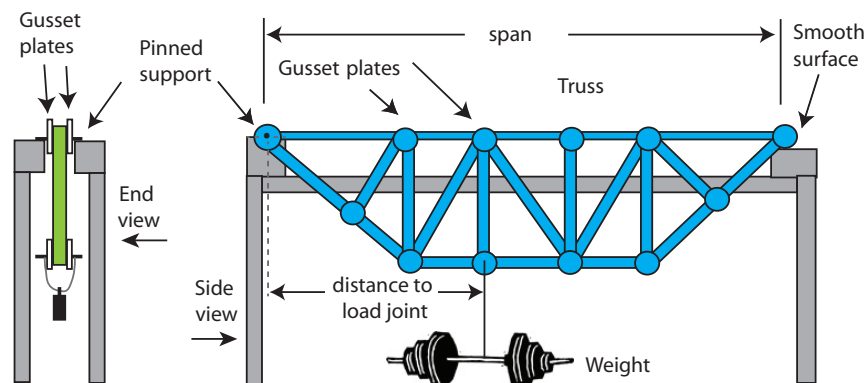

Figure 2.2: Cartoon of the testing apparatus
7. **The truss should be designed such that it is supported and loaded in an “inverted” arrangement (see Fig. 2.2 below), where the truss is supported by two joints along the top horizontal line and the load is placed at a joint positioned *below* the joints.**
This implies that there must be a joint at that location along the bottom line. You are free to have any other number of joints along that line but you must at least have that one. Feel free to deviate from the classic ‘train bridge’ design where all the bottom-most joints are horizontal and in-line with each other (e.g. it doesn't have to *look* like the truss shown in Fig. 2.2, only be supported and loaded as shown).